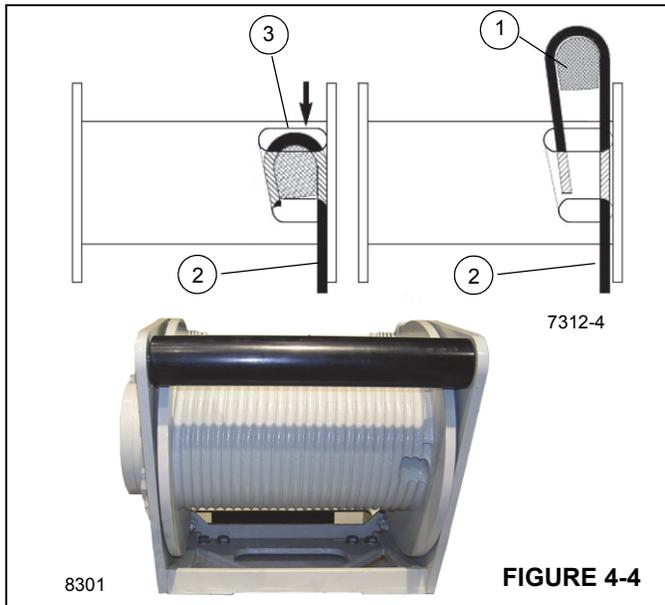

FIGURE 4-4
5. Insert the cable through the slot and position around the anchor wedge (1) Figure 4-4.